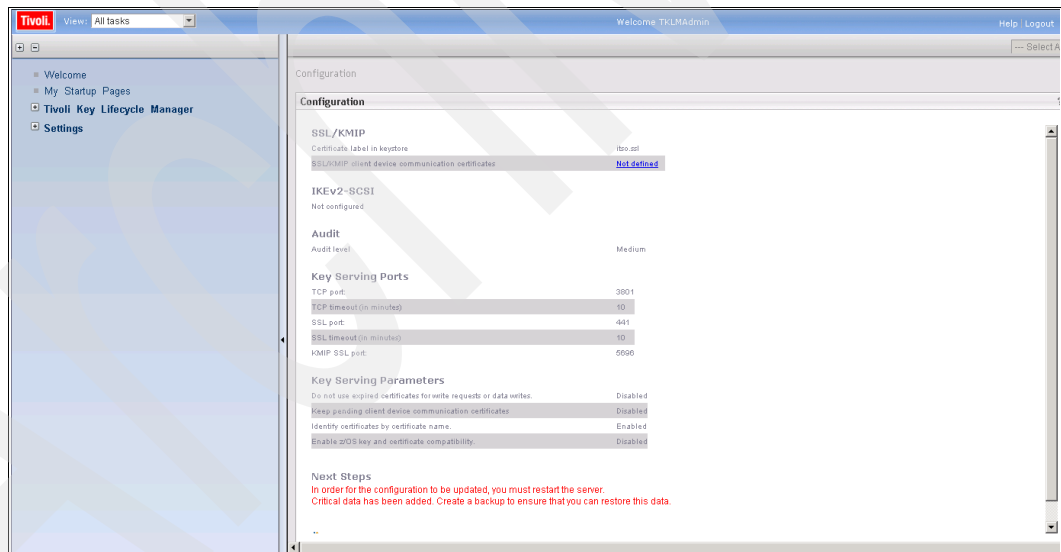

Figure 6-27 TKLM\_v2\_config\_end
27. You are prompted to restart the server in order to update the configuration and have the changes become effective (Figure 6-27).